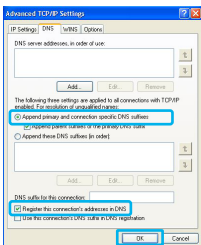

Figure 6
7. Select the **[DNS]** tab and check that the **Append primary and connection specific DNS suffix** is selected. Click **OK**. (Figure 6)